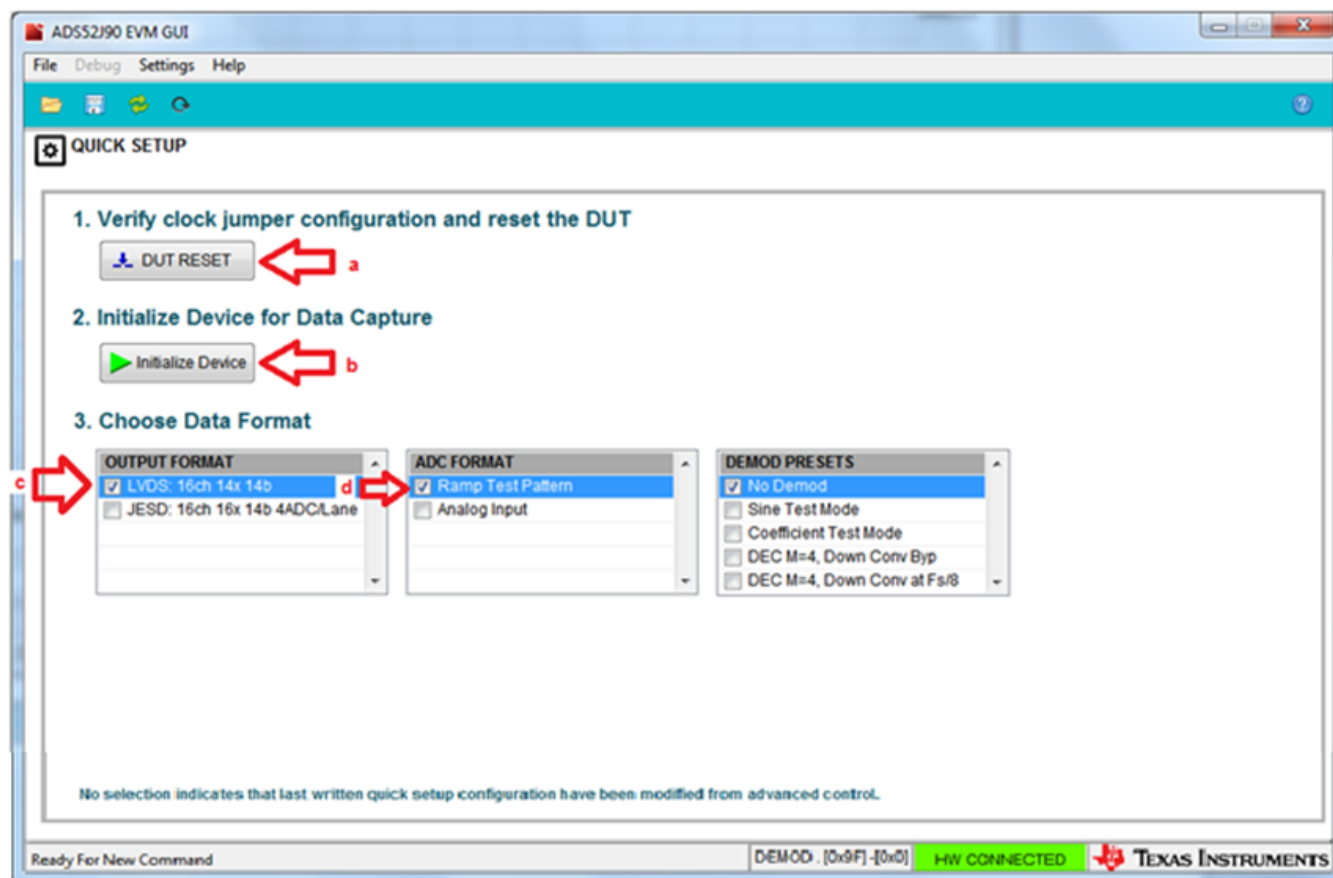

Figure 17. HMC-DAQ GUI Setup (d)
3. At this point there should be two GUI's running and connected, HSDCpro and HMC-DAQ which are communicating behind the scenes. Anytime the ADS52J90 device configuration is updated, HSDCpro is informed and the appropriate firmware updates are done automatically. To capture a RAMP test pattern in LVDS, 16-channel, 14 bit, 14x serialization configuration, do the following as shown in Figure 17: